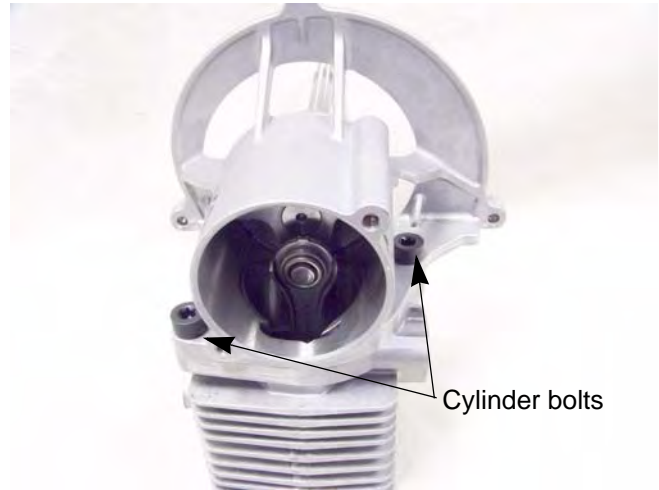

Figure 8.7
10. Remove the two cylinder bolts using a T-30 torx driver. See Figure 8.7.